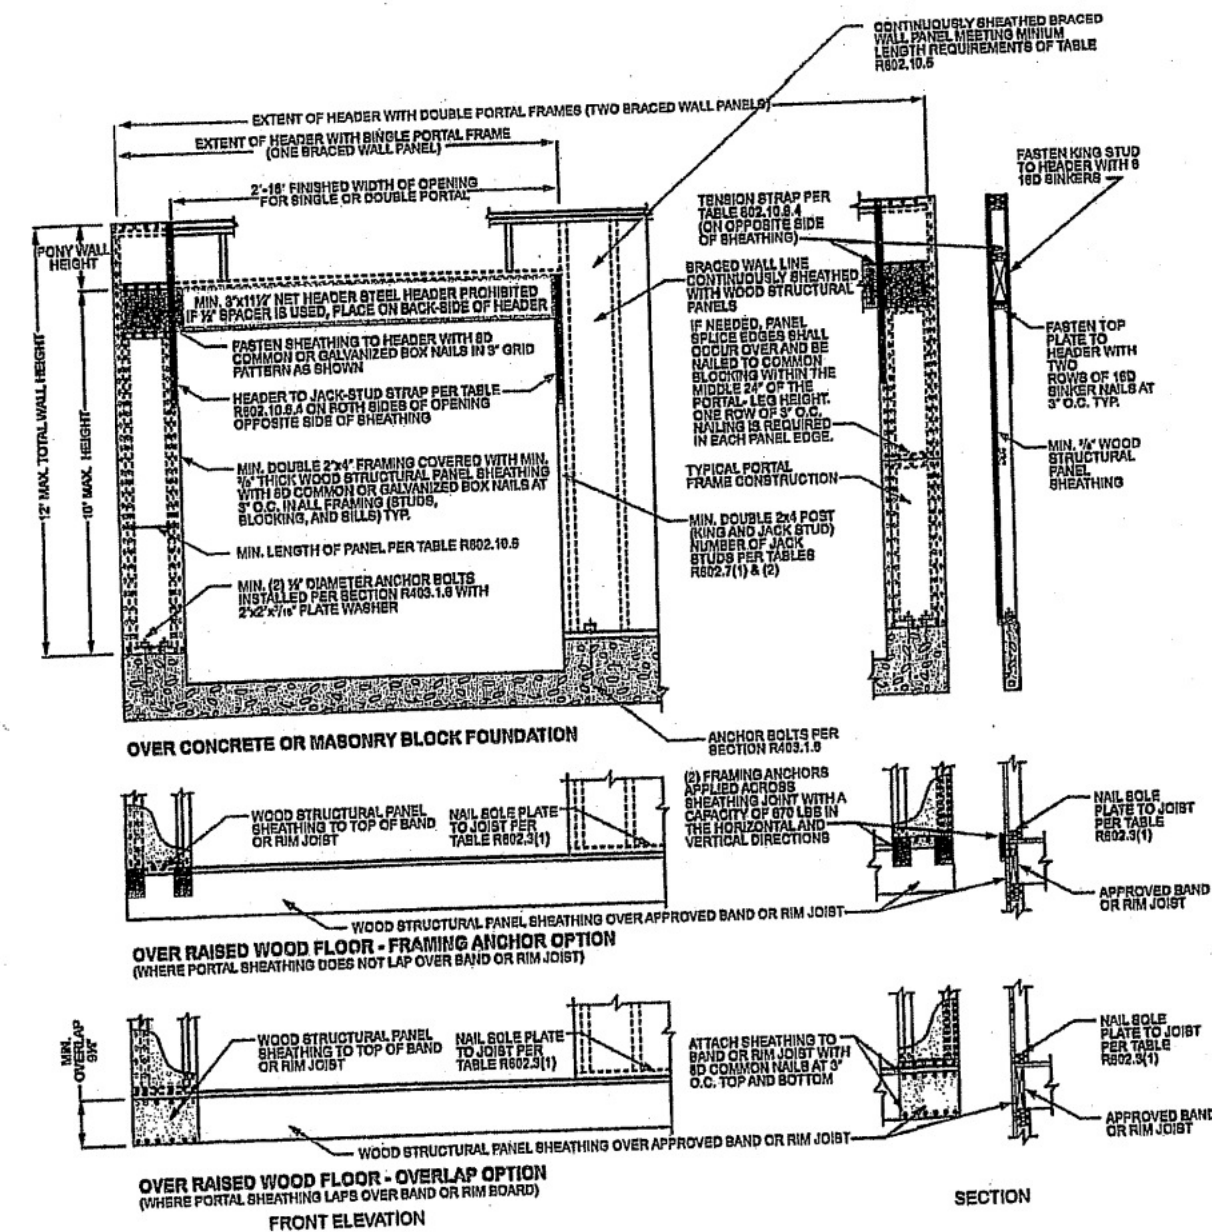

FIGURE R602.10.6.4
d. Maximum header height for FPG is 10 feet in accordance with Figure R602.10.6.3, but wall height shall be permitted to be increased to 12 feet with pony wall.
e. Maximum header height for CS-PF is 10 feet in accordance with Figure R602.10.6.4, but wall height shall be permitted to be increased to 12 feet with pony wall.